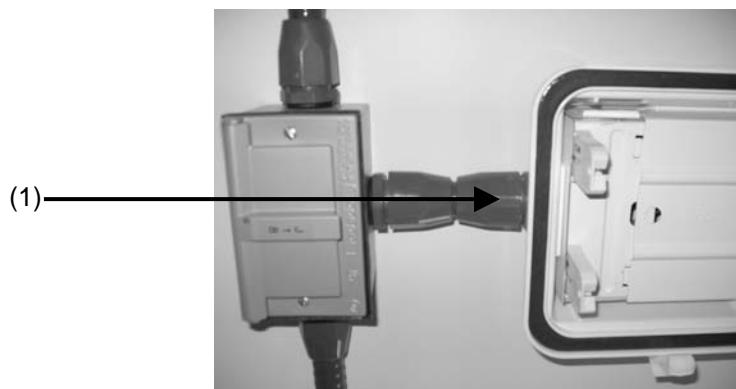

Figure 4-42. Conduit attached to ceiling light fixture.
4. Loosen conduit connector(s) (1) from conduit adapter (Fig. 4-42) and remove wire nuts from inside fixture.